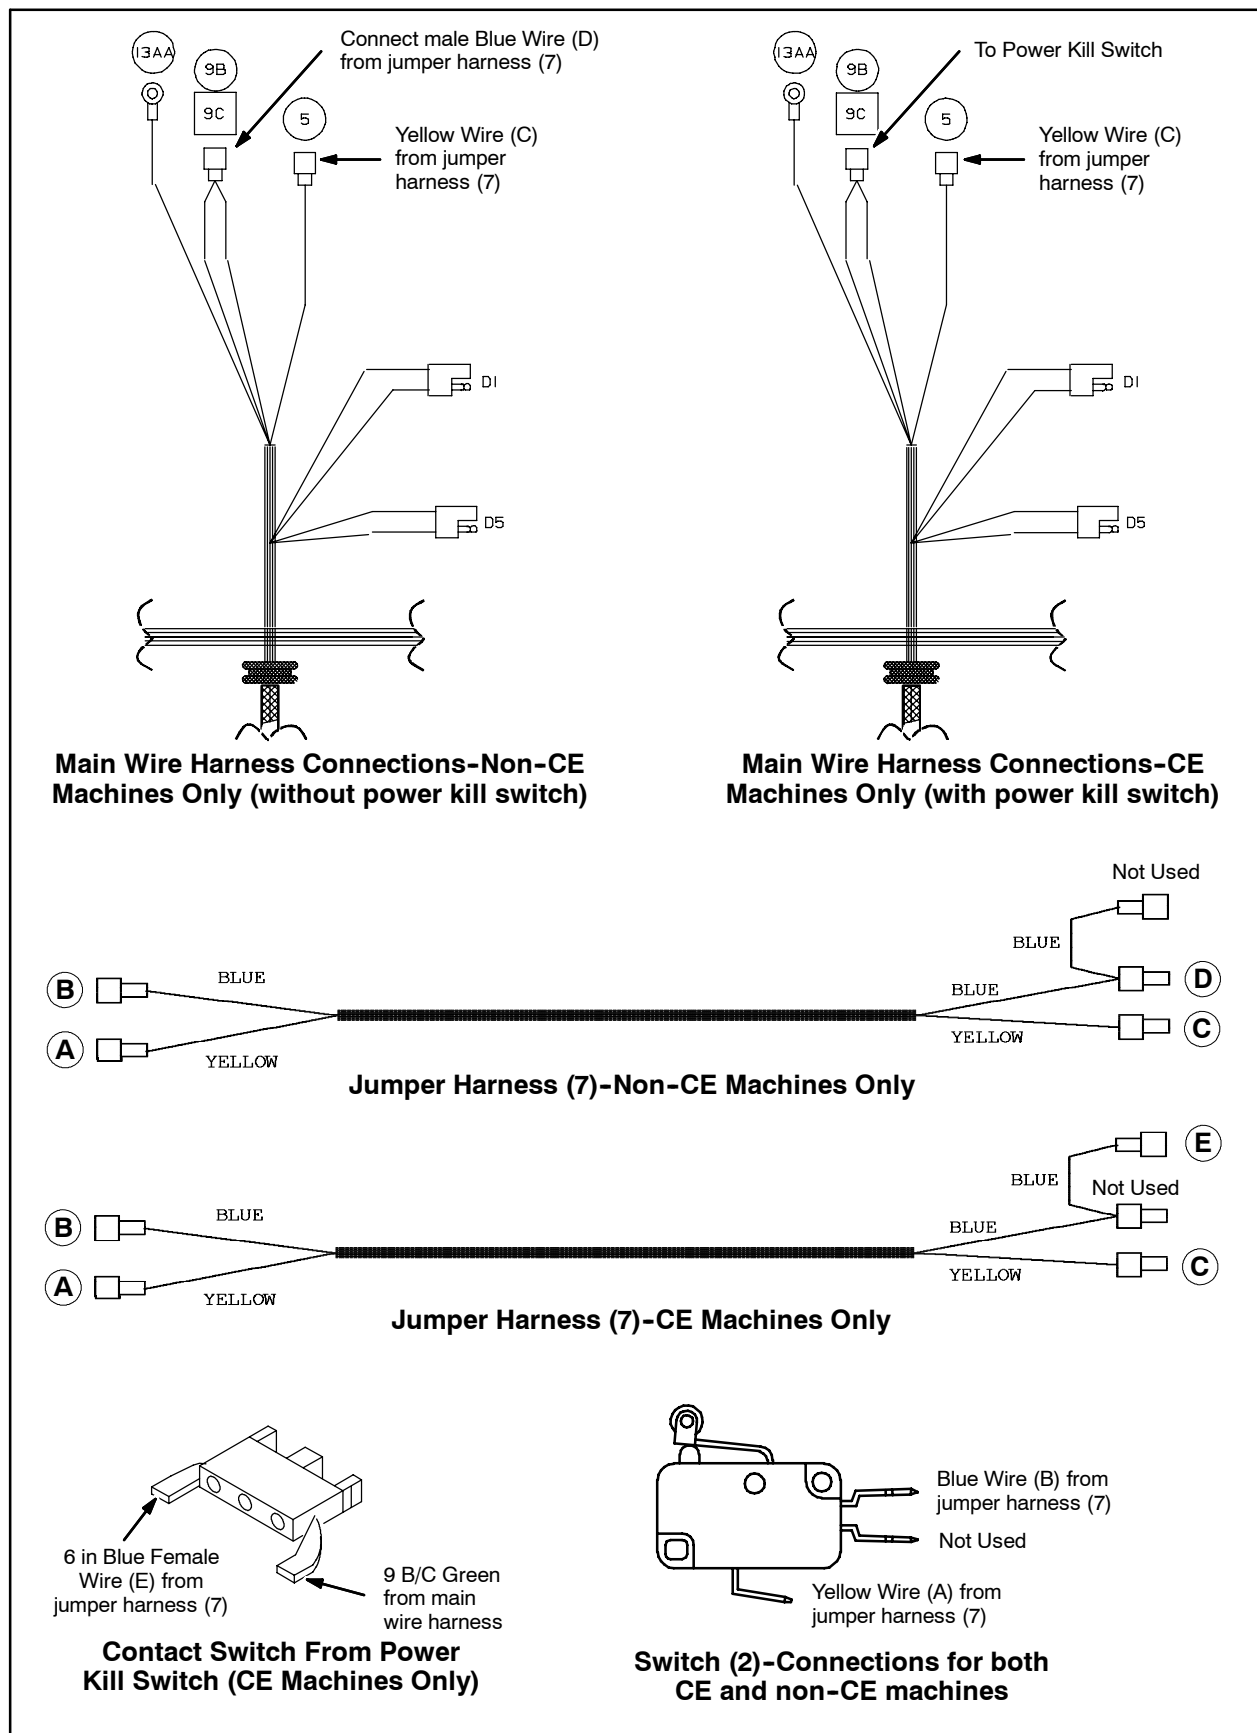

FIG. 7
3. Connect the jumper harness (7) to the switch (2). Refer to Fig. 7.
8. **Non-CE machines only:** Connect the jumper harness (7) to the main wire harness. Refer to table below for wire locations. Wrap electrical tape around the unused connector on the (E) 6 in. blue wire and tie off. Refer to the table below and Fig. 7.
**CE machines only:** Connect the jumper harness (7) to the main wire harness and the power kill switch. Wrap electrical tape around the unused connector on the (D) blue male wire and tie off. Refer to the table below and Fig. 7.